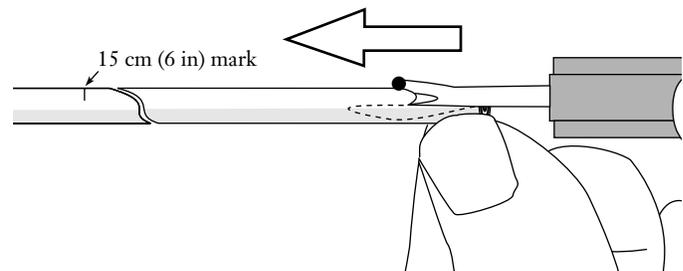

Figure 4
4.3 Insert a seam ripper into the slit between the jacket and the aramid yarn. Keep the point of the ripper parallel to the jacket while ripping the sheath open. Stop at the 15 cm (6 in.) mark made in step 4.1 (Figure 4).